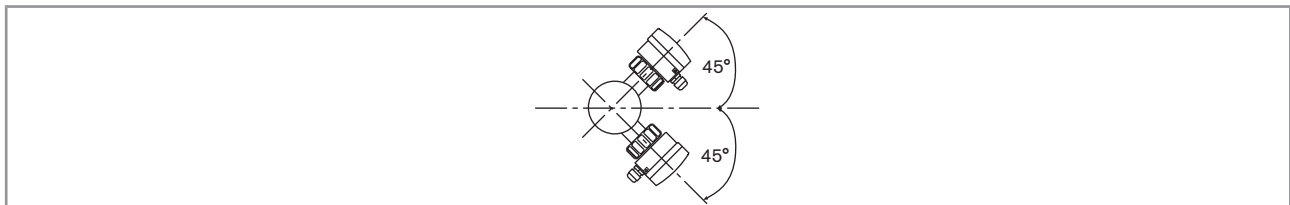

Fig. 8: Mounting angle on the pipe
- Preferably install the device at a 45° angle to the horizontal centre of the pipe to avoid having deposits on the electrodes and false measurements due to air bubbles (see "Fig. 8");